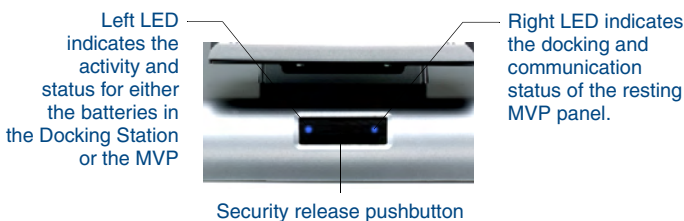

FIG. 4 MVP-TDS front panel LED locations
Note: Initially, both blue LEDs (FIG. 4) illuminate and remain dim (indicating that the power is being supplied to the MVP-TDS).
FIG. 4 shows the front LED locations on the MVP-TDS Table Top Docking Station.
The two LED indicators (beneath the front security release pushbutton) (FIG. 4) indicate both the battery and communication status as follows:
- Press and hold the front panel security release pushbutton (FIG. 4). Allow one second for the electromagnet to turn-off.
- Press and hold the front panel security release pushbutton (FIG. 4) until an on-screen security keypad appears within the MVP LCD.